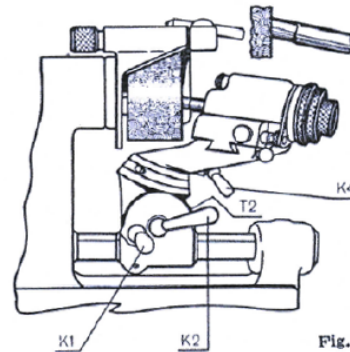

Fig. 2
Cutter profiles having either on-center or off-center radii are derived from cylindrical single-lip cutters having a straight end cutting edge by rounding off the corner as shown in Figs. 2 and 3 (Nos. 2 and 3 Profiles).
2. No.2 Profile: Release Clamping Lever K5; rotate knurled knob S5 to set cross slide by means of vernier scale T5 for desired radius (to the right); tighten clamping lever K5, see Fig.2. As the radiused corner is required to be tangent to the cutter diameter, the amount of off-set a is $D/2 - r$.